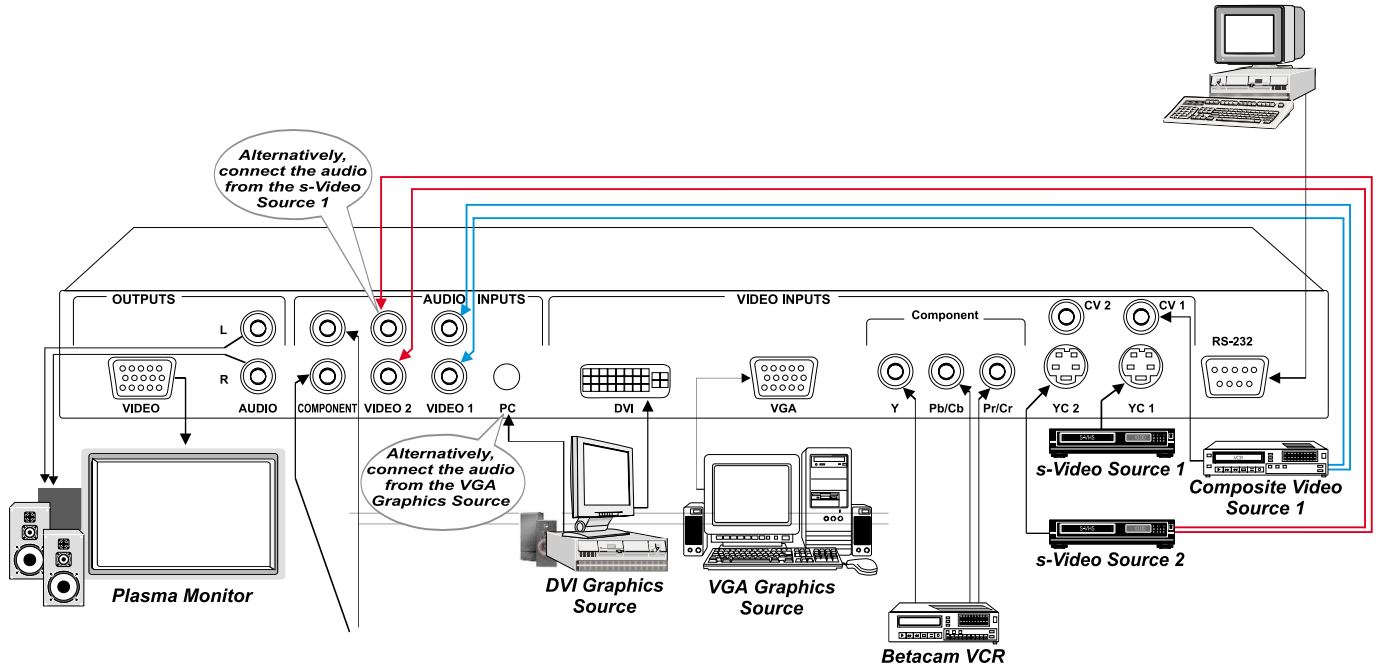

Figure 3: Connecting the VP-720DS / VP-723DS Rear Panel
To connect the **VP-720DS** or **VP-723DS**, connect the following² to the rear panel, as the example in Figure 3 illustrates:
- A component video source⁴, for example, a Betacam VCR (as illustrated in Figure 3), to the 3 RCA connectors, Y, P_b/C_b, and P_r/C_b
2. Connect the stereo audio sources, as illustrated in Figure 3. In particular:
- The audio of the DVI Graphics Source to the AUDIO INPUT PC 3.5mm socket⁷. Alternatively, connect the audio from the VGA Graphics Source (not illustrated in Figure 3)
3. Connect the VIDEO OUTPUT HD15F connector to the video acceptor, for example, a projector or a Plasma monitor (as shown in Figure 3), and
3 Connection to CV 2 is not shown in the example in Figure 3